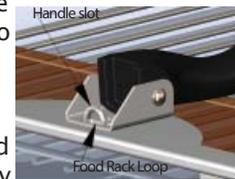

Figure 1
Step 4: Take handle assembly #1923248 and rotate the handle and bracket so they lie flat. Fit the bracket slot over the food rack loop on top of the glass door as shown (Figure 1).